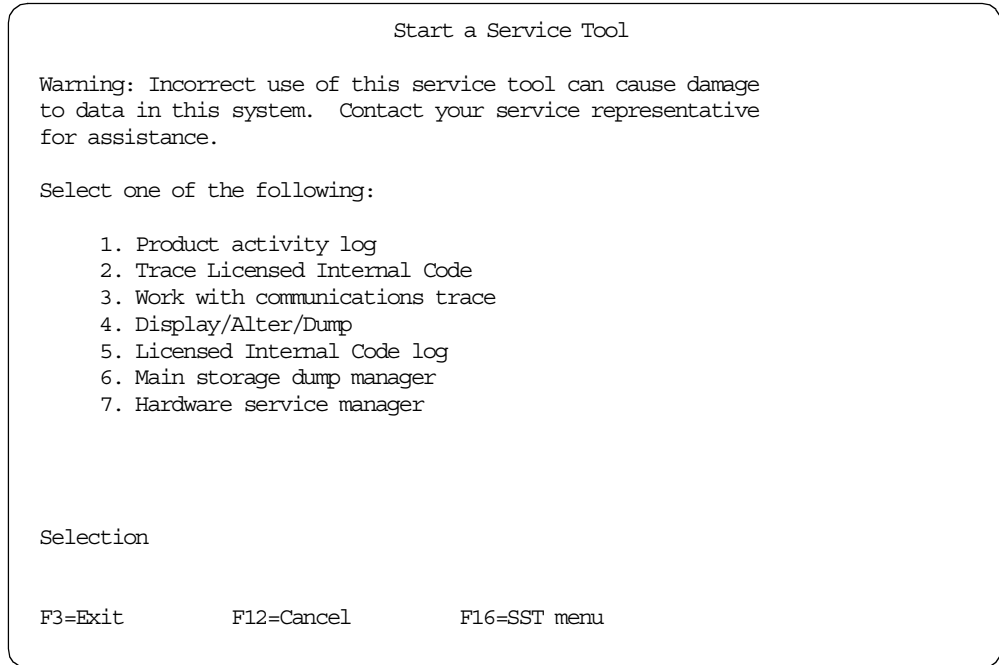

Figure 403. System Service Tools (SST) display: Option 1
2. Enter option 1, Start a service tool. The display shown in Figure 403 on page 748 appears.